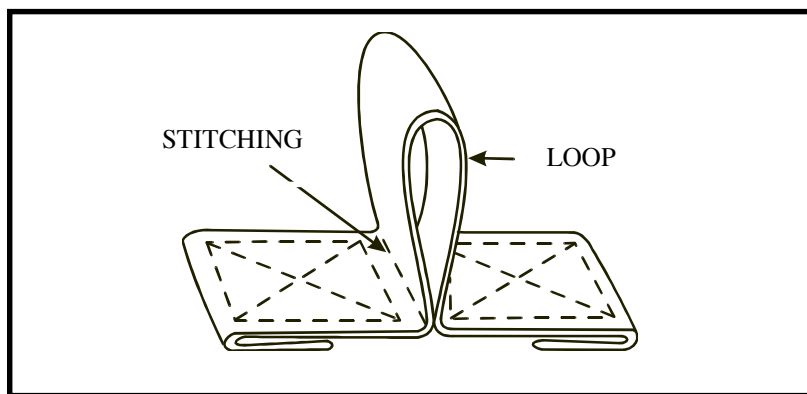
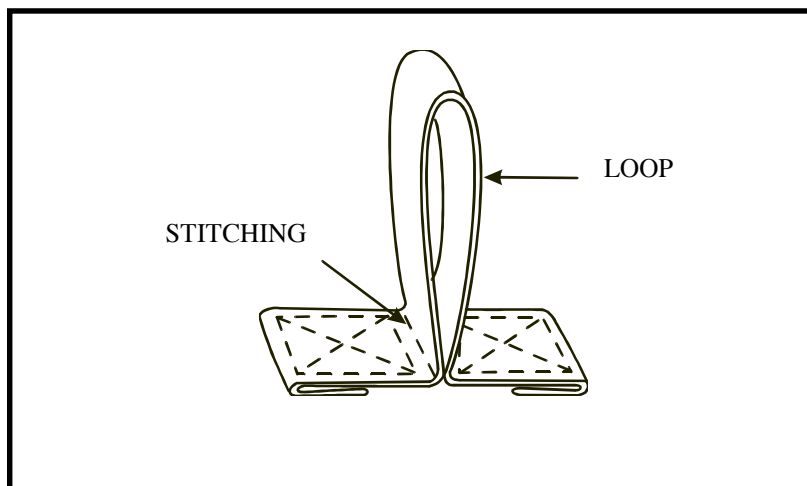
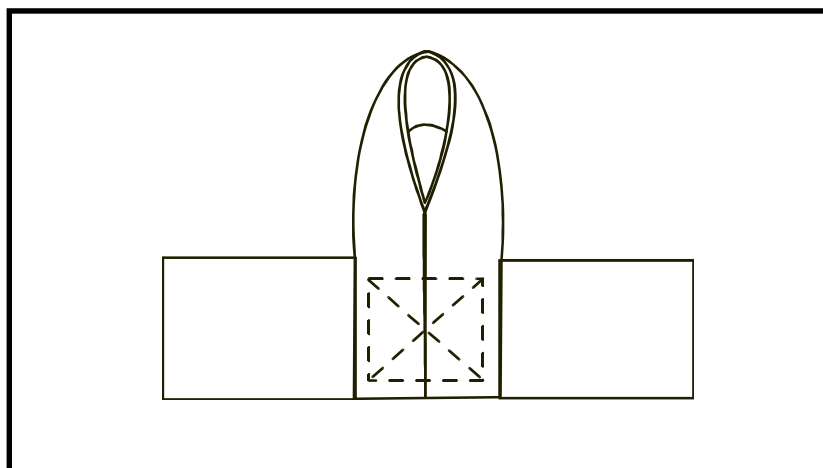

Figure 13-10. Short loop
Figure 13-11. Two-ply long loop
Figure 13-12. Edge-type loop
b. Short Loop. The short loop (Figure 13-10) sticks out a short distance from the canvas item. To make a short loop--
- (1) Cut a piece of webbing. Allow for a short loop and the turnunder at each end.
- (2) Fold the webbing in half to form a little loop.
- (3) Sew a seam across the webbing at the base of the loop.
- (4) Turn under the ends.
- (5) Sew the webbing to the canvas item with X-shaped seams.
c. Two-Ply Long Loop. The two-ply long loop (Figure 13-11) is used where a strong, lengthy loop is needed. To make this loop--
- (1) Cut two pieces of webbing. Allow for a long loop and the turnunder at each end.
- (2) Sew the two pieces of webbing together with a row of stitches along each edge.
- (3) Fold the webbing to form a long loop.
- (4) Sew a seam across the webbing at the base of the loop.
- (5) Turn under the ends.
- (6) Sew the webbing to the canvas item with X-shaped seams.
d. Edge-Type Loop. The edge-type loop (Figure 13-12) is used on tarpaulins for tie-line fastenings. It is also used as the female half of a toggle fastener. To make this loop--
- (1) Cut a piece of webbing twice the length of the planned loop plus enough to form a turnunder at each end.
- (2) Turn under the ends.